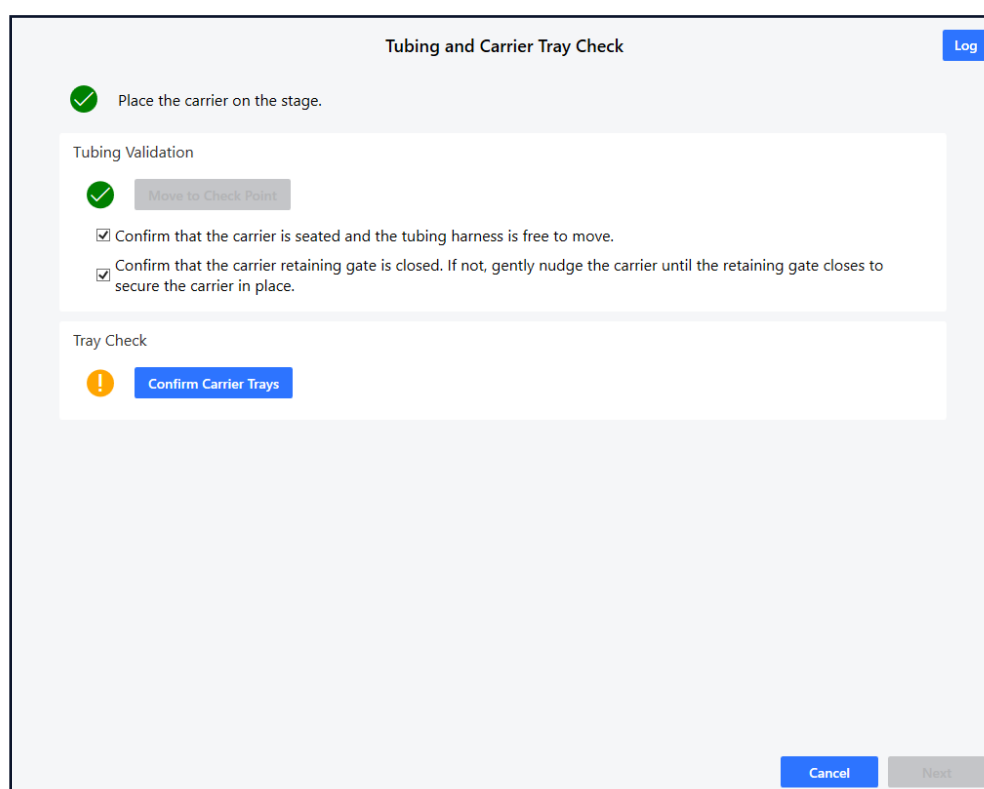

Figure 6.16. Dialog window, Tubing and Carrier Tray Check complete.
7. The Tubing and Carrier Tray Check dialog box is complete. (See Figure 6.16.)